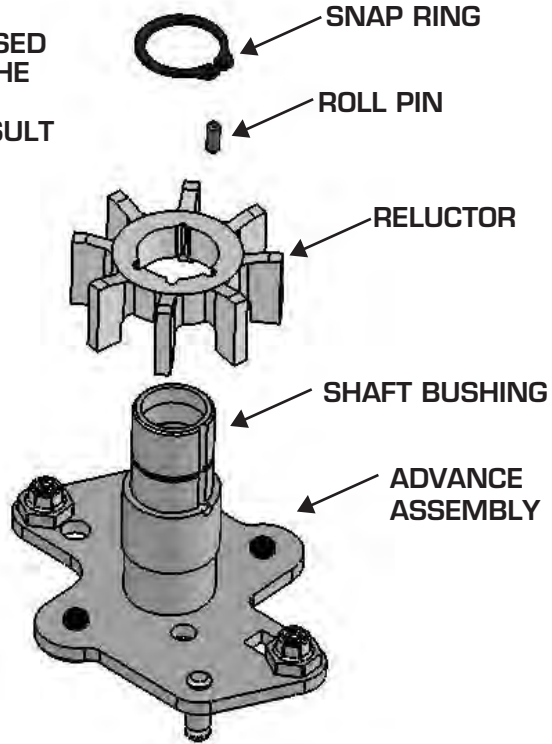

Figure 2 Reluctor Assembly.
3. Remove the snap ring from below the reluctor (Figure 2).